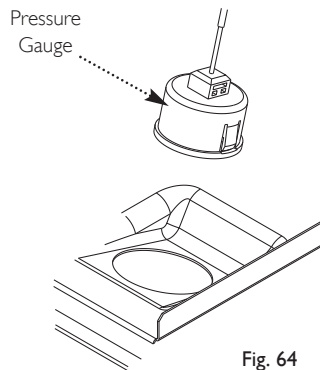

Fig. 64
15.17 Pressure Gauge (Figs. 64 & 65)